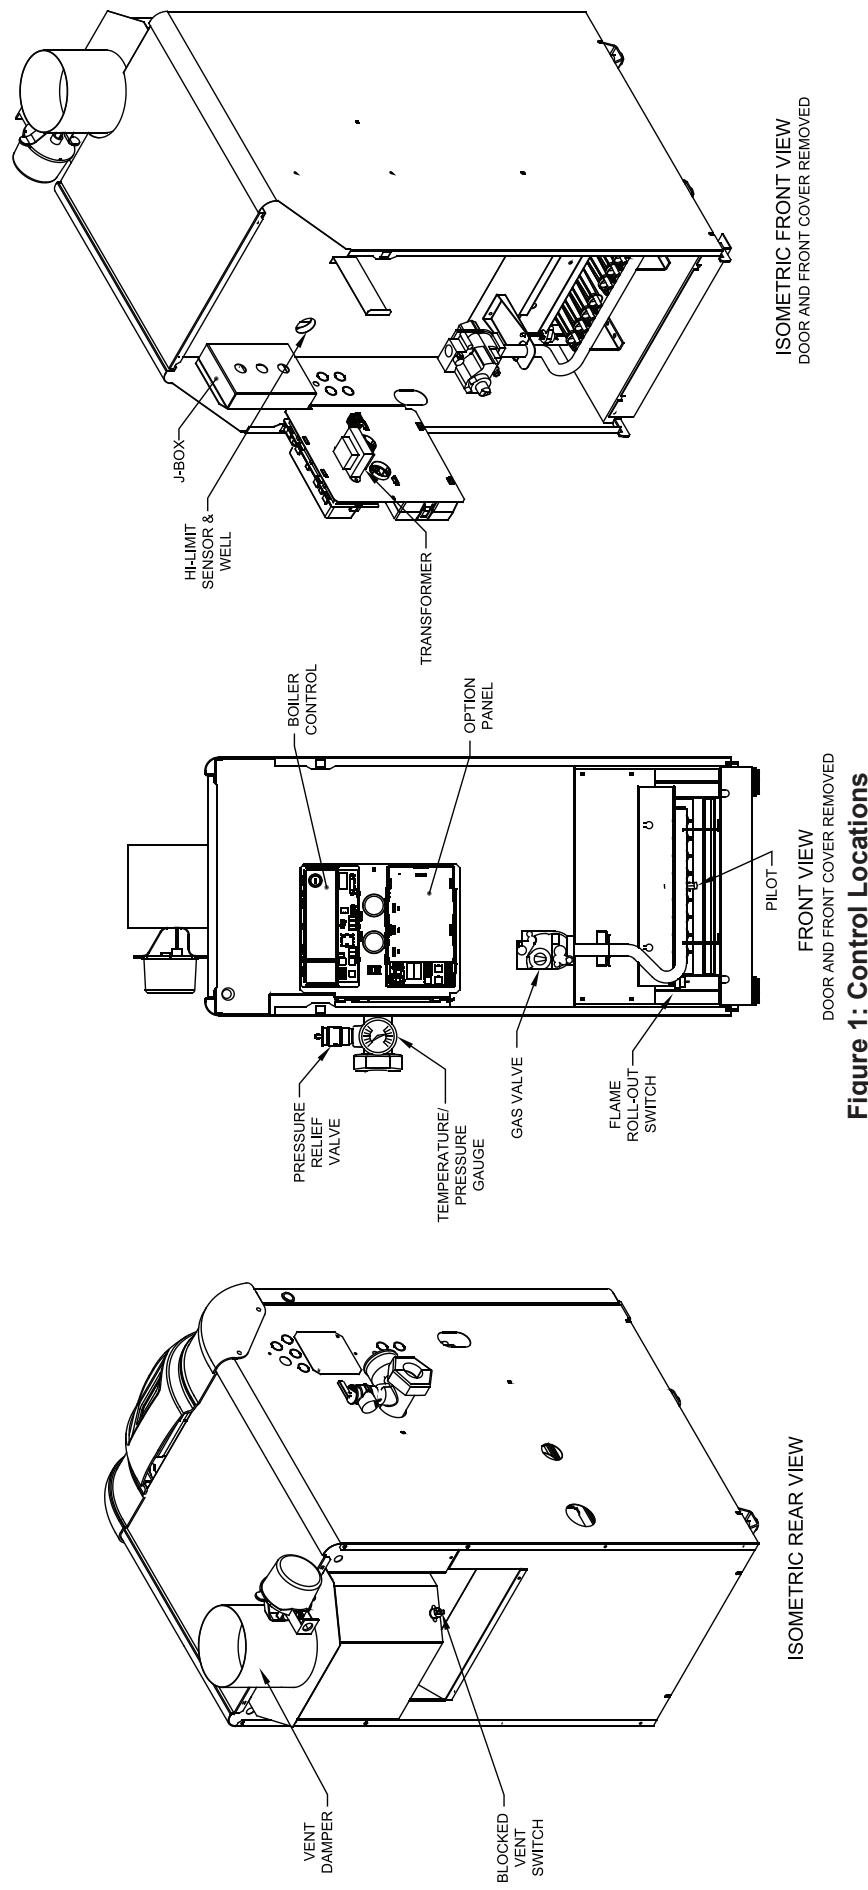

Figure 1: Control Locations
- 1. Limit.** See Figure 1. A device which automatically interrupts boiler operation when the water temperature exceeds the set point. Maximum allowable temperature is 220°F.
- 2. Flame Rollout Switch.** See Figure 1. A device which automatically interrupts boiler operation when flames or excessive heat are present in the combustion area enclosure. The control is a single use device. The control is located in the combustion area enclosure. If the control was activated to interrupt boiler operation, do not attempt to place boiler in operation. Contact a qualified service agency.
- 3. Blocked Vent Switch** See Figure 1. A device which automatically interrupts boiler operation when excessive vent system blockage occurs. If the control was activated to interrupt boiler operation, do not attempt to place boiler in operation. Contact a qualified service agency.
- 4. Electronic Ignition System** - see Figure 1. The Electronic Ignition (EI) System consists of:
2. View flames through burner access panel. See Figure 1.